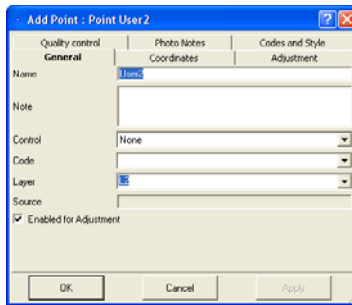
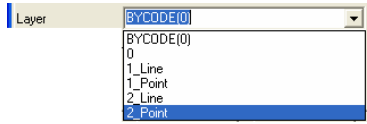

Figure 5-29. Add Point Dialog Box
Figure 5-31. Select Layer for Point
- On the **Add Point** dialog box (Figure 5-29) you can correct the point name (by default “User n” where *n* is the number), the coordinates in the coordinate system set for the current job, enter a code, string, control codes, note and set a control. Click **OK**.
To set the layer for a point (Figure 5-31), select the layer using the *General* tab in the **Add Point** dialog box (Figure 5-29). The